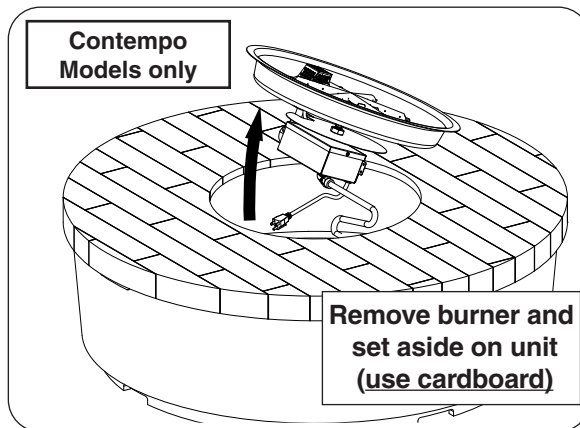

Fig. 48-1 Remove burner assy (if needed)
1. The burner will need to be removed. Prior to removal, rest cardboard over the surface of the table top (to prevent damage to the finish when the burner is set aside on the unit). Use a $\frac{5}{16}$ " nut driver to partially unfasten the 2-4 screws found on the burner assembly. Then carefully remove the burner and set it off to the side. See Fig 48-1.